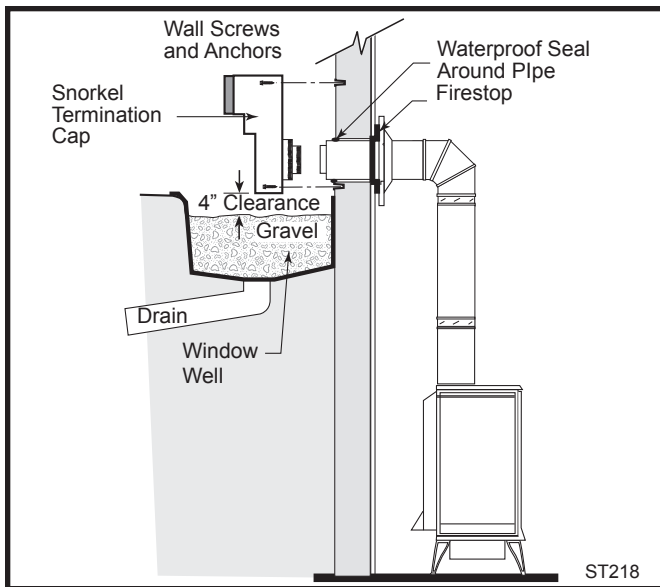

Fig. 28 Snorkel kit installation.
Install Snorkel Kit #7FSDVSKS when it is not possible to meet the required vent termination clearances of 12" (305 mm) above grade level. The snorkel kit will allow installation depth of down to 7" (178 mm) below grade level. The seven inches is measured from the center of the horizontal vent pipe as it penetrates the wall. **If the venting system is installed below grade, a window well must be installed with adequate and proper drainage.** (Fig. 28)
2. Remove soil to a depth of approximately 16" (406 mm) below the base of the snorkel. Install a window well (not supplied). Refill the hole with 12" (305 mm) of coarse gravel and maintain a clearance of at least 4" (102 mm) below the snorkel. (Fig. 28)